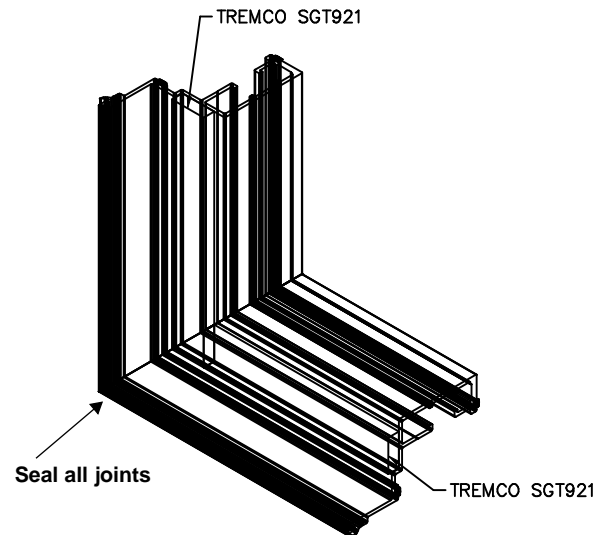

FIGURE 1
3. APPLY TREMCO SGT921 1/4" x 3/4" GLAZING TAPE CONTINUOUS AT JAMBS (SEE FIGURE 1).
4. APPLY SGT921 GLAZING TAPE CONTINUOUS AT HEAD AND SILL, BETWEEN TAPE ON JAMBS (SEE FIGURE 1).
5. SEAL ALL MITER/JOINTS. SHOWN IN FIGURE 1.